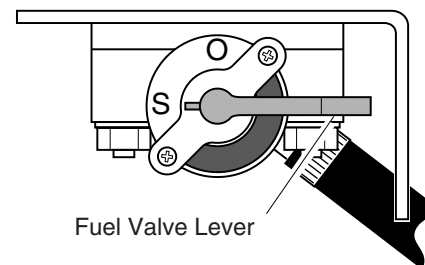

Figure 20 - Fuel Valve Lever In "S" Position
5. Turn fuel valve lever off. Do this by moving valve lever to the "S" position (see Figure 20).